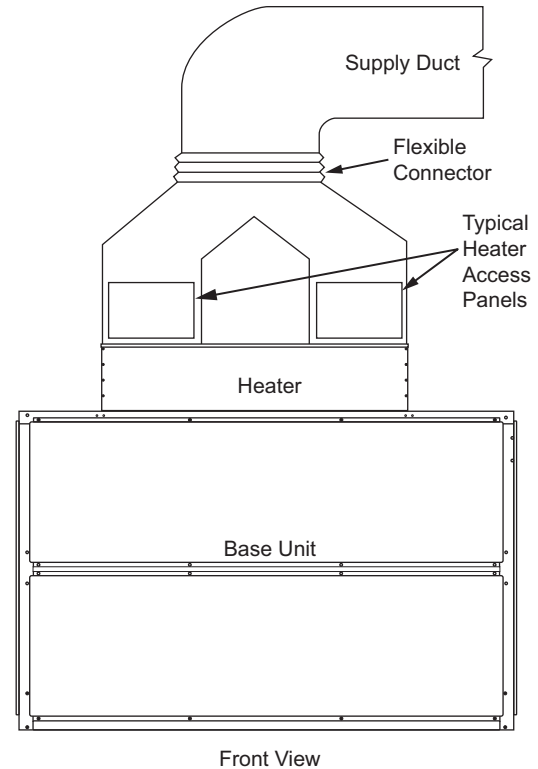

Fig. 2 — Typical Ductwork Installation
2. Connect the supply ductwork to the heater discharge openings in the top of the heater using field-supplied screws. A flexible duct connector is recommended. Provide an access panel in the supply duct to allow service access to the heater elements. (See Fig. 2.)
40RU000242 FIG. 2
40RU000243 FIG. 2
40RU000244 FIG. 2
The heater element assemblies are located above each fan discharge opening. When installing ductwork, be sure to provide an access panel to allow heater element servicing. (See Fig. 2.) If this is not possible, it will be necessary to remove a section of the supply duct or the entire heater assembly to service the heater elements.